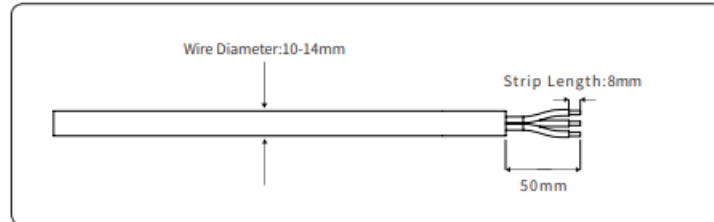

Figure 4-15
2. According to the table above, select an appropriate cable, peel the insulation sleeve of AC cable off for 50mm, and peel off the end of L /PE / N wires for 8mm, as shown in Figure 4-15: